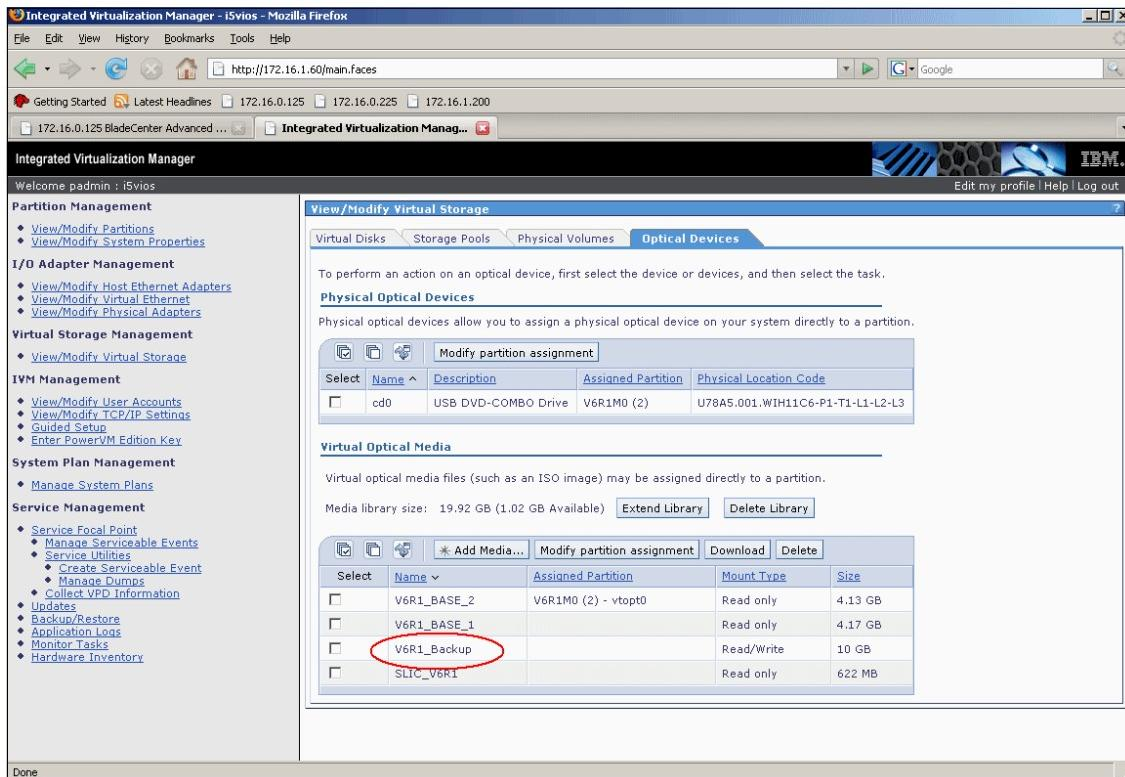

Figure 7-71 IVM Virtual optical device created
8. The new virtual optical device should be listed in the Virtual Optical device list, as shown in Figure 7-71 on page 319.